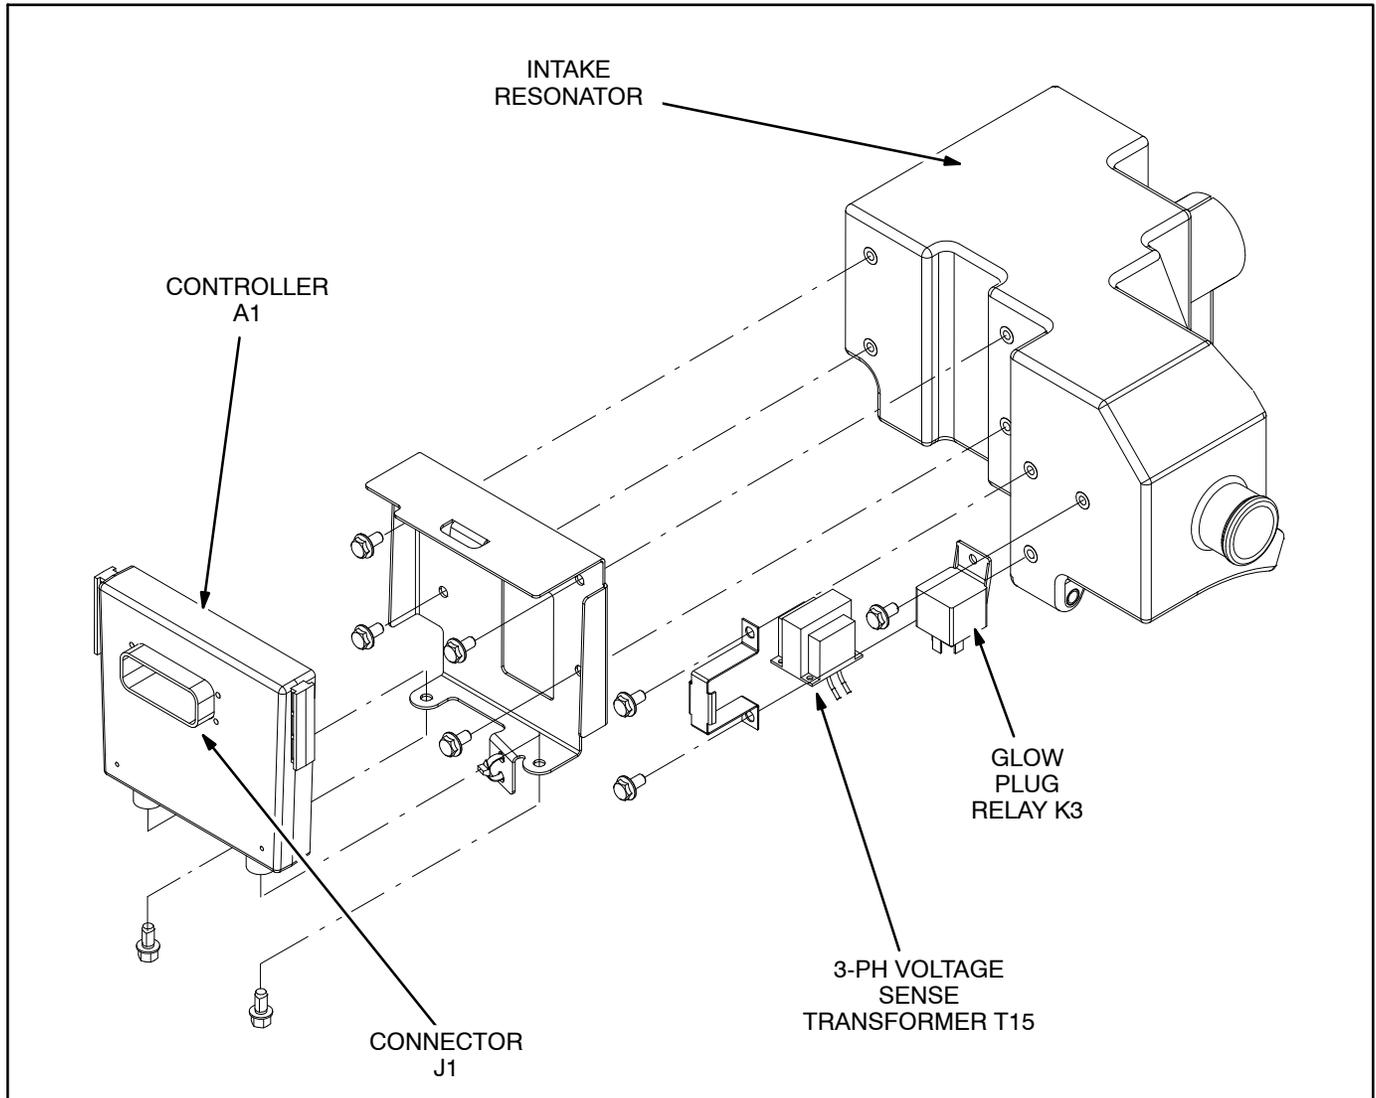

FIGURE 5-1. CONTROLLER A1
Controller A1 is an integrated microcontroller-based engine and generator control (Figure 5-1). It provides all the control, monitoring and diagnostic
The glow plug relay is mounted in its wiring socket on the intake resonator (Figure 5-1). Pull the relay out to test it. Apply 12 VDC across terminals 85–86. Replace the relay if the contacts across terminals 30–87 (NO) do not open and close.
Mounting: The voltage sense transformer for 3-phase generators is mounted on the intake resonator (Figure 5-1). It is connected as shown on Page A-2 to sense output voltage in L1.